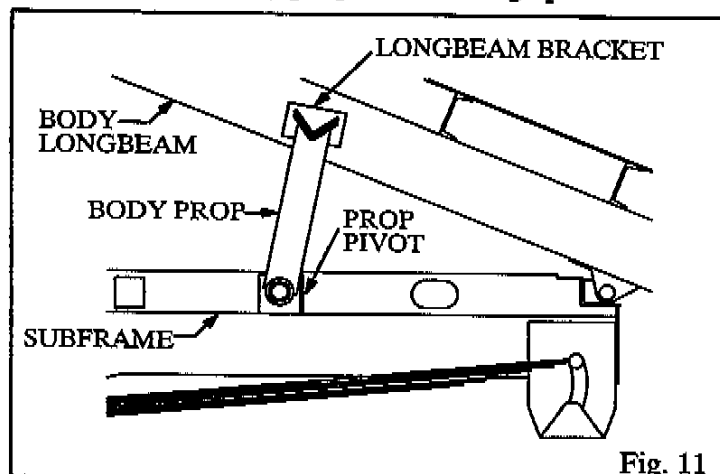

Fig. 11
3. Place the longbeam bracket assy in the body prop saddle. Raise or lower the body as needed to position the bracket on the outside of the longbeam where it will not interfere with the body prop when it is in the stored position and the body is down. Securely weld this bracket to the body. (See Fig. 11.)